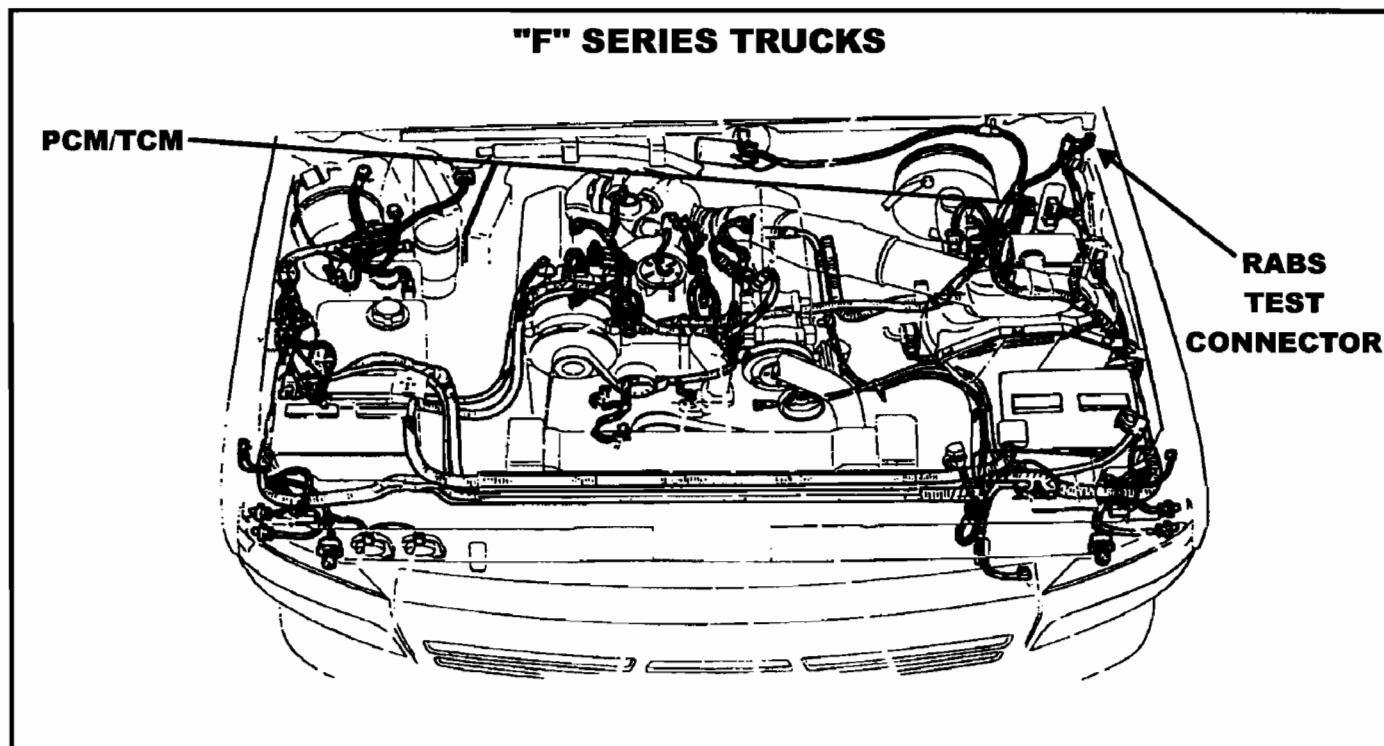

Figure 4
2. Locate the RABS test connector in the left rear corner of the engine compartment on "F" series (Refer to Figure 4) trucks or behind the left side headlamp assembly (Refer to Figure 5) on "E" series vans.
3. Locate the vehicles computer, to the left of the brake booster in "F" series trucks (Refer to Figure 4) and to the right of the brake booster in "E" series (Refer to Figure 5) vans and back probe pins 3 (**GRAY/BLACK, CIRCUIT 679**) and 6 (**PINK/ORANGE, CIRCUIT 676**), (EEC-IV) on 1994-95 "F" series Turbo Diesels, and 1996 and later vehicles, pin 33 (**GRAY/BLACK, CIRCUIT 679**) and (**PINK/ORANGE, CIRCUIT 676**) pin 58 (EEC-V), with the multi meter set to HZ.